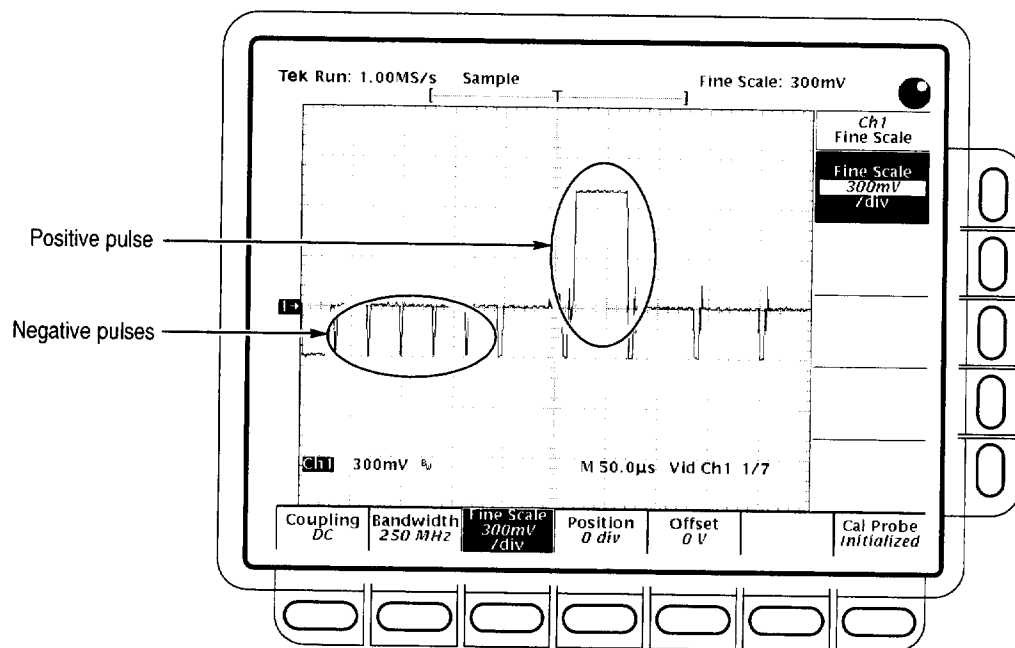

Figure 1–30: Triggered signal range test – 300 mV
- m. CONFIRM that the **TRIG'D** LED stays lighted and that the waveform on screen is stable. Also, CONFIRM that the waveform on the screen has one positive pulse and a number of negative pulses. See Figure 1–30.